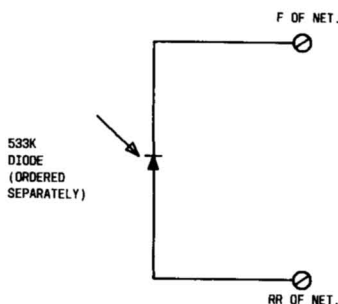

Fig. 5—Installing Diode for Dial Restriction
- (1) 830-Type Telephone Set:
- (a) Install a 533K diode between terminals RR and F of the network as shown in Fig. 5.
- (2) 2830-Type Telephone Set:
**Note 1:** Rotary dial telephone sets must have a 533K diode (ordered separately), installed between RR and F of the network see Fig. 5.
**Note 2:** The new line switch can be identified by two additional leads which are (BL).